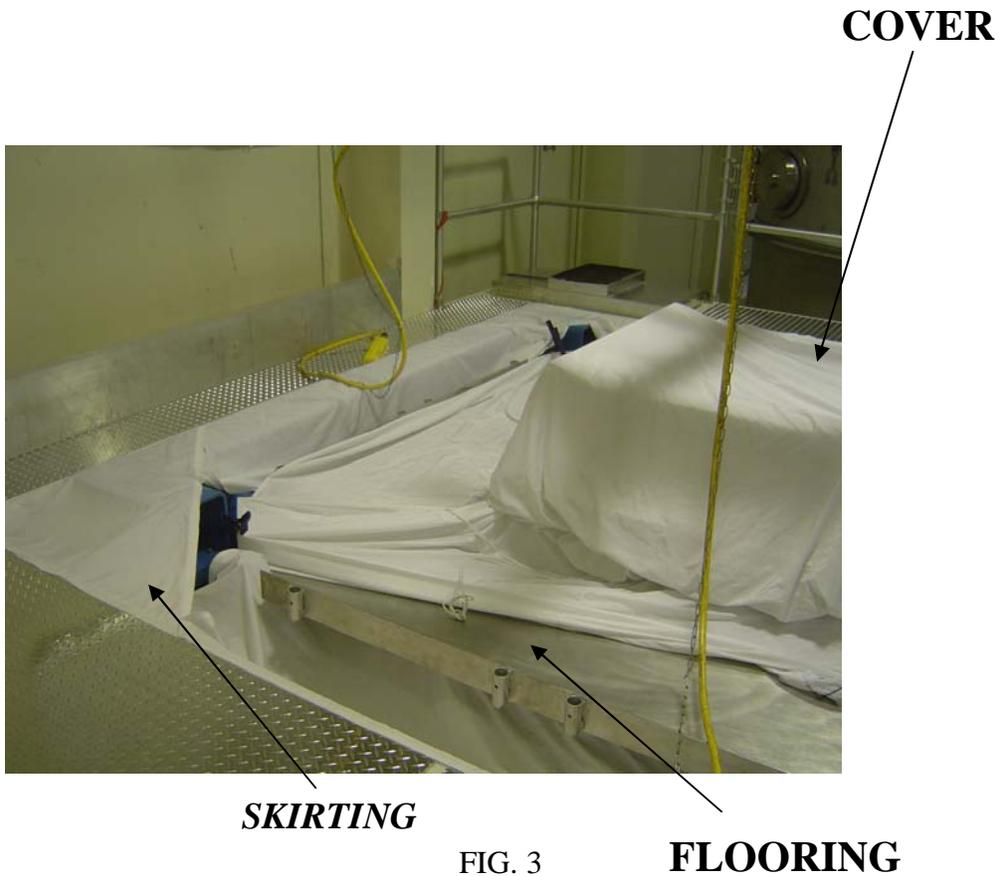

FIG. 3
7. Attach skirting and assemble BSC upper floor staging (fig. 3).